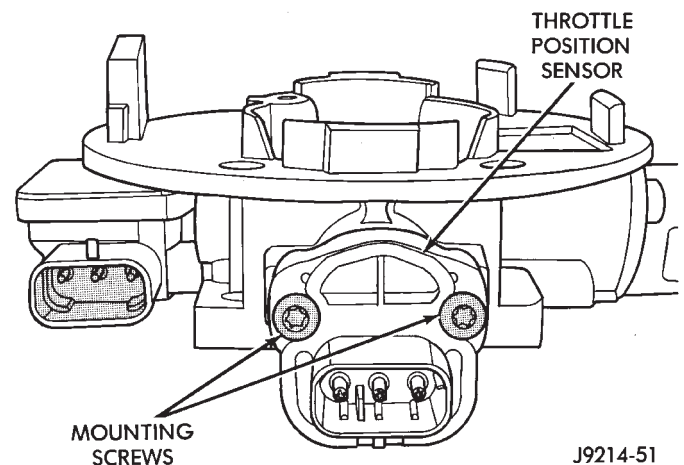

Fig. 25 TPS Mounting Screws
- (1) Remove air intake tube at throttle body.
- (2) Disconnect TPS electrical connector.
- (3) Remove two TPS mounting screws (Fig. 25).
- (4) Remove TPS from throttle body.